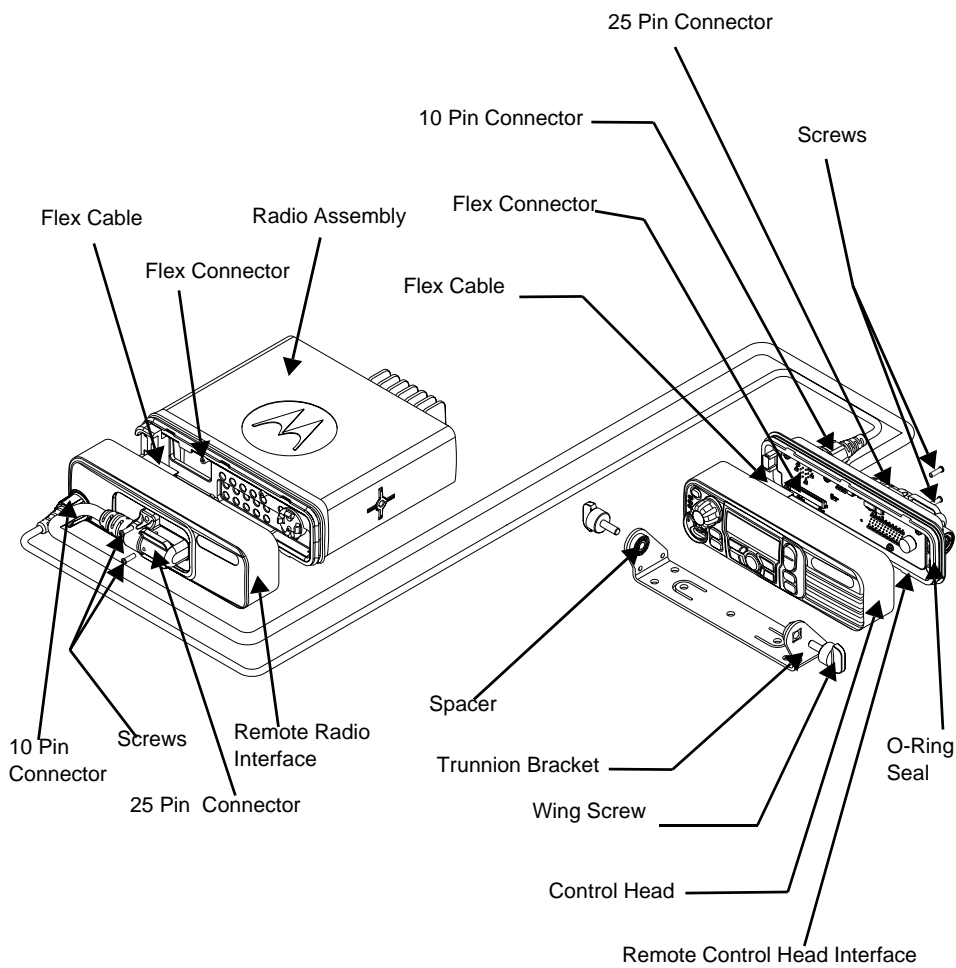

Figure 3 Remote Control Head Assembly and Trunnion Mounting
(See Figure 3).
2. Assemble the flex cable to flex connector on the remote control head interface module, making sure it is fully seated. (See Figure 3).